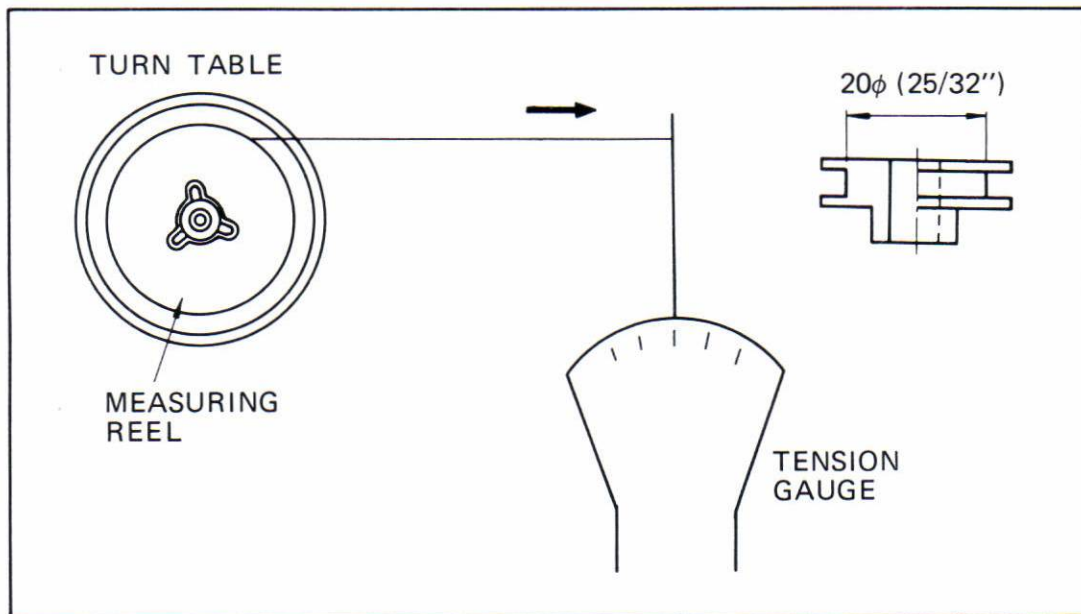

Figure 2
■ TAKE-UP TORQUE IN FAST FORWARD MODE (Refer to Figure 2)
■ REWIND TORQUE IN REWIND MODE (Refer to Figure 2)
■ TAKE-UP TORQUE IN PLAY MODE (Refer to Figure 2)